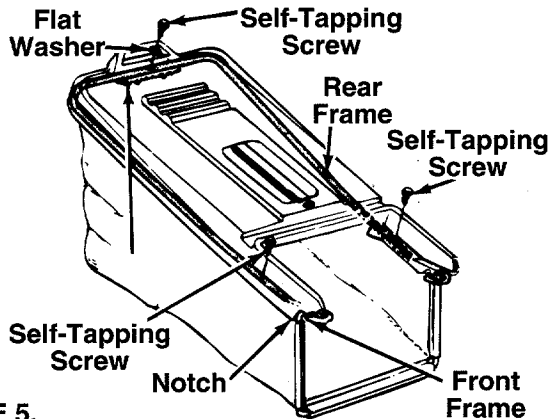

FIGURE 5.
4. Attach the hardtop cover to the grass catcher as follows. See figure 5.
- c. Attach rear of cover to frame using the flat washer and one self-tapping screw as shown in figure 5. Attach the sides of the cover to frame with the other two self-tapping screws.